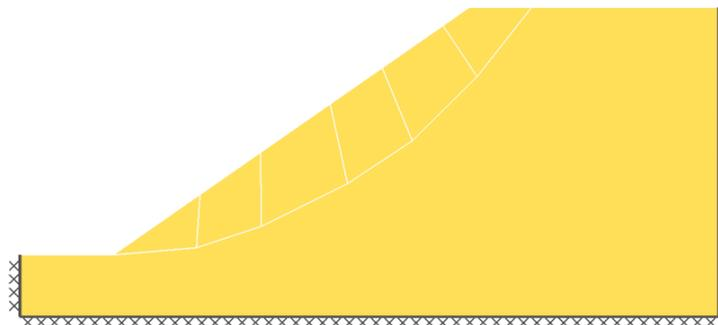

Figure 3: Main problem failure mode
- Using the default **Nodal Density** of *Medium* (available in the project level **Property Editor**) for initial checking runs, click **Solve** or . This first solve returns an **Adequacy factor** of 1.271 together with the failure mode shown in Figure 3. This means that the soil strength (c' and $\tan \phi'$) must be reduced by a factor of 1.271 to cause failure, and thus the slope is safe against ULS. Click unlock .